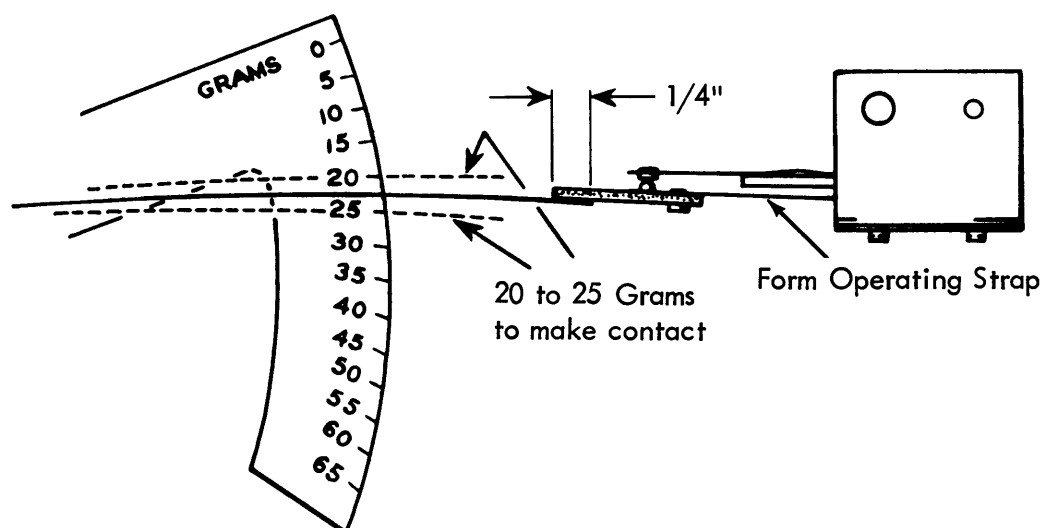
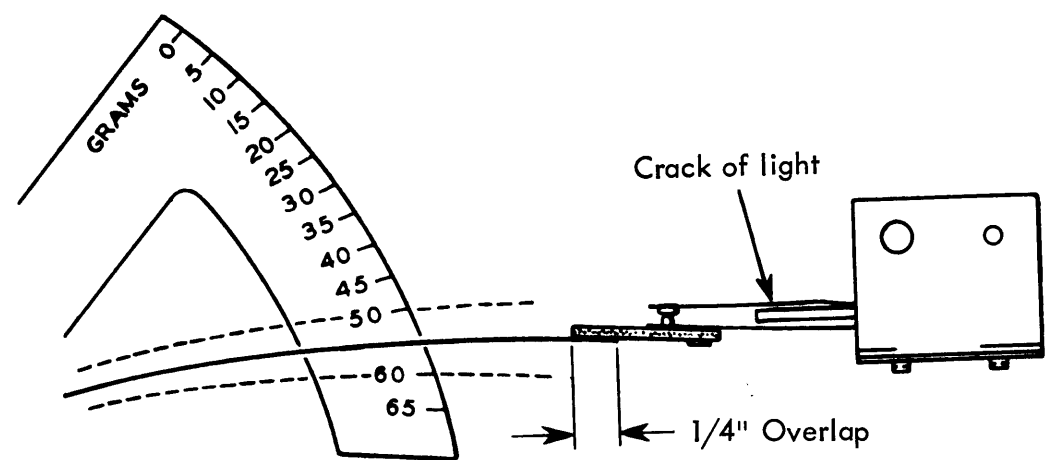

Figure 4-20. Interposer Bail Contact Adjustment
Figure 4-21. Interposer Bail Contact Rise Adjustment
- With contact assemblies removed, form operating strap near the mounting to require 20 to 25 grams to close contacts (Figure 4-20). Place gram gage finger under phenolic pad with 1/4-inch overlap when checking adjustment; 50 to 60 grams should then be required to close contact and to raise stationary contact off support strap (Figure 4-21).